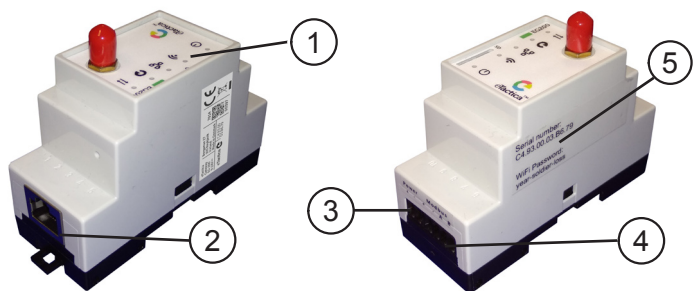

Fig. 1 EG-200
- ▶ Connect the cable to the Gateway (pos. 4 in Fig. 1).
- ▶ Connect an Ethernet cable to the connector (pos. 2 in Fig. 1) and connect the other end of the cable to an Internet router/modem.
- ▶ Connect the power cable to the Gateway (pos. 3 in Fig. 1).
1. Wait for the Wi-Fi hotspot to appear on your laptop or tablet, and connect, see pos. 5 in Fig. 1 for the Wi-Fi password.
The Gateway has 5 LEDs on the front, which indicate the status of the device (pos 1 in Fig. 1).